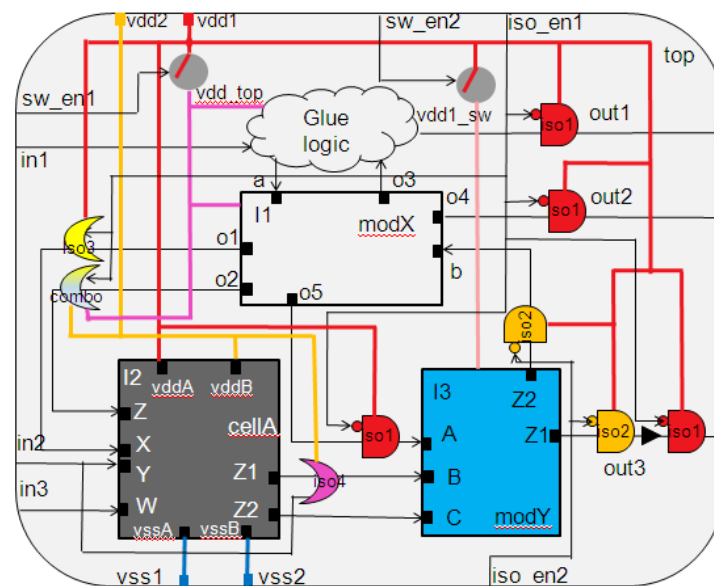

Figure E.6—Block example diagram after physical implementation
Figure E.6 shows the block diagram of the example in Figure E.1 after the physical implementation stage, with power and ground connections completed.
- *Level-shifter supply connection:* The level-shifter cell power and ground connections are determined by the options **-input_supply_set** and **-output_supply_set** in the level-shifter strategy. For example, in `top_impl.upf`, the level-shifter strategy `lv11` has an input supply set of `PDTop.primary` and output supply set of `PDTop.SSH2`. Since an enabled level-shifter is used to implement both the isolation strategy `iso3` and level-shifter strategy `lv11` for this connection, the input power net of the cell is `vdd_top` and the output power net of the cell is `vdd2`, as shown in Figure E.6. If the two options are not specified for a level-shifter strategy, the supply set of the source is used as the input supply set and the supply set of the sink is used as the output supply set.
- *State retention supply connection:* In the configuration UPF, the option **-retention_supply_set** describes the supply set for each retention strategy. Retention cells mostly have two set of supplies. The primary rails are connected to the power and ground nets of the parent domain. The secondary rails are connected to the power and ground nets of the specified retention supply set. Even though it is not shown in Figure E.6, the retention cells that implement the strategy for `ret1` in `top_soft.upf` shall have the following connections: primary rails of the cell are connected to `vdd1_sw` and `vss1`, respectively, and the secondary rails of the cell are connected to `vdd1` and `vss1`, respectively.